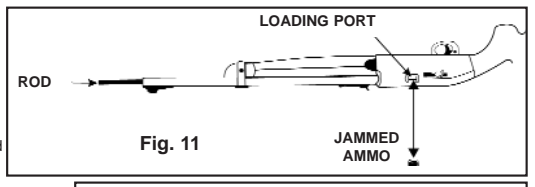

Fig. 11
- With the airgun "ON SAFE", open the bolt by pulling it all the way back, insert a .177 caliber ramrod into the barrel and carefully push the jammed pellet or BB into the loading port. Do not try to reuse that pellet or BB. (Fig. 11)